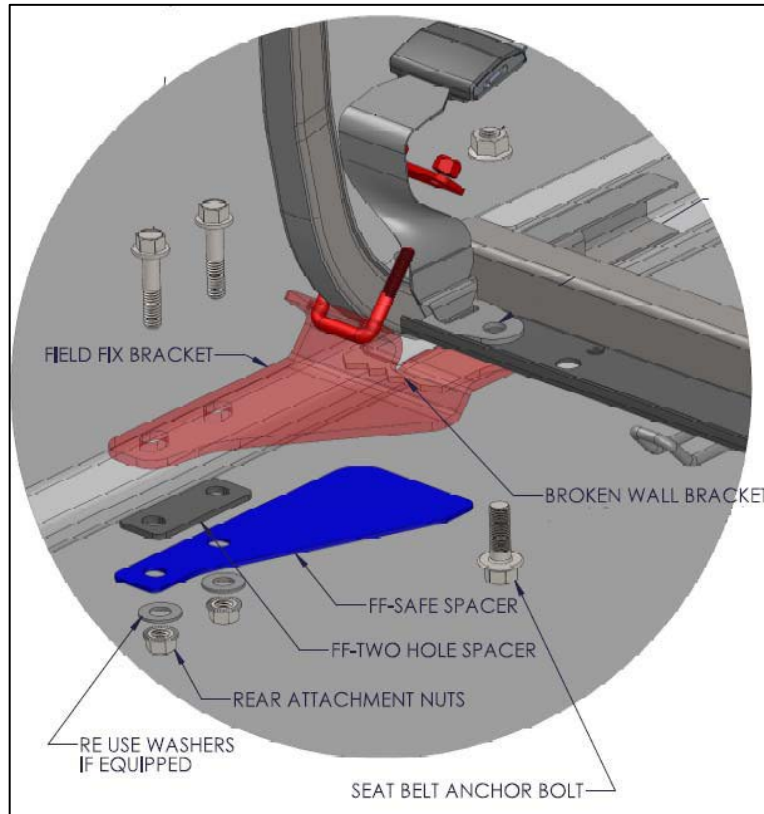

Figure 11: Installation of Safe Spacer – 45 Inch Seats
2. Slide the safe spacer (TBB 220080) underneath the broken bracket and position the two holes so they line up with the two holes in the seat rail. See **Figure 11**.